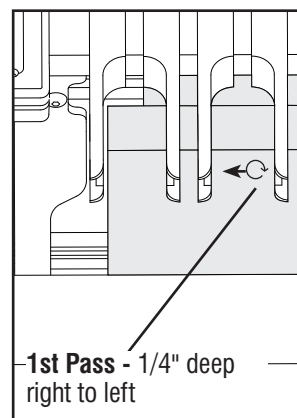
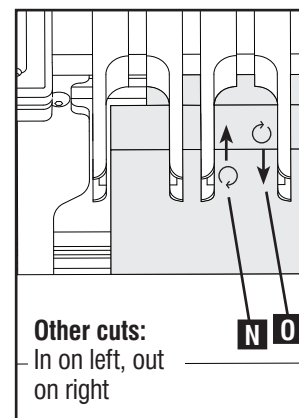
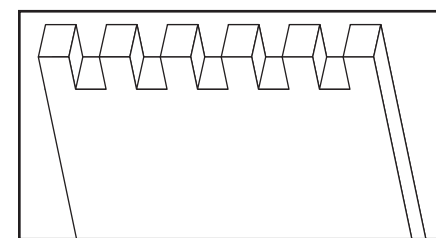

Fig. I15
Fig. I16
Fig. I17
5. To reduce tearout, the first pass (Fig. I15) of each area to be cut should be from right to left. Only a light cut is required, no deeper than a 1/4" for example. For other cuts (Fig. I16), the router should enter from the left and exit from the right. Continue until cutting is complete and the final cut should resemble Fig. I17.